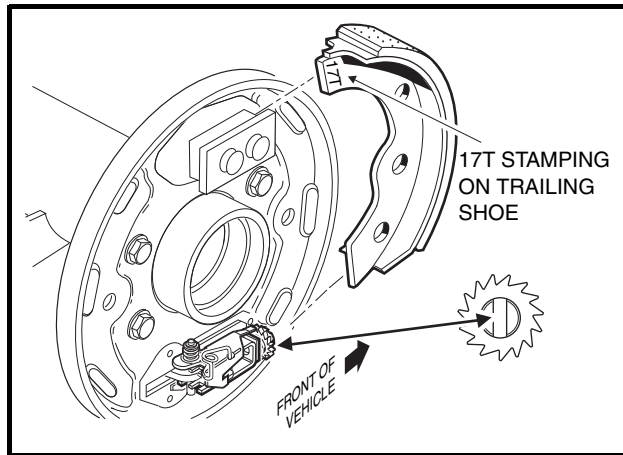

Figure 6-12 Trailing Shoe
1. Turn the adjusting wheel screw so the shoe slot is vertical, then position the trailing shoe in the slots in the shoe mounting block and adjuster assembly (**Figure 6-12, Page 6-6**). See following NOTE.
NOTE: The trailing shoe has 17T stamped into the tip of the shoe flange (**Figure 6-12, Page 6-6**). The leading shoe is stamped 17L. When installing the shoes, the stampings on both shoes should be oriented to the top of the brake assembly. When installing the shoes on the passenger side of the vehicle, the side of the trailing shoe flange marked 17T should be facing out and be visible. On the driver side, the 17L on the leading shoe should be facing out and be visible.